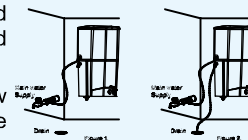

Figure 1.
1. Now connect one end of the white pipe to the SS ball valve and the another end to the upper push-fit elbow fitting to the left hand side of the purifier labelled WATER IN, as shown in Figure 1.